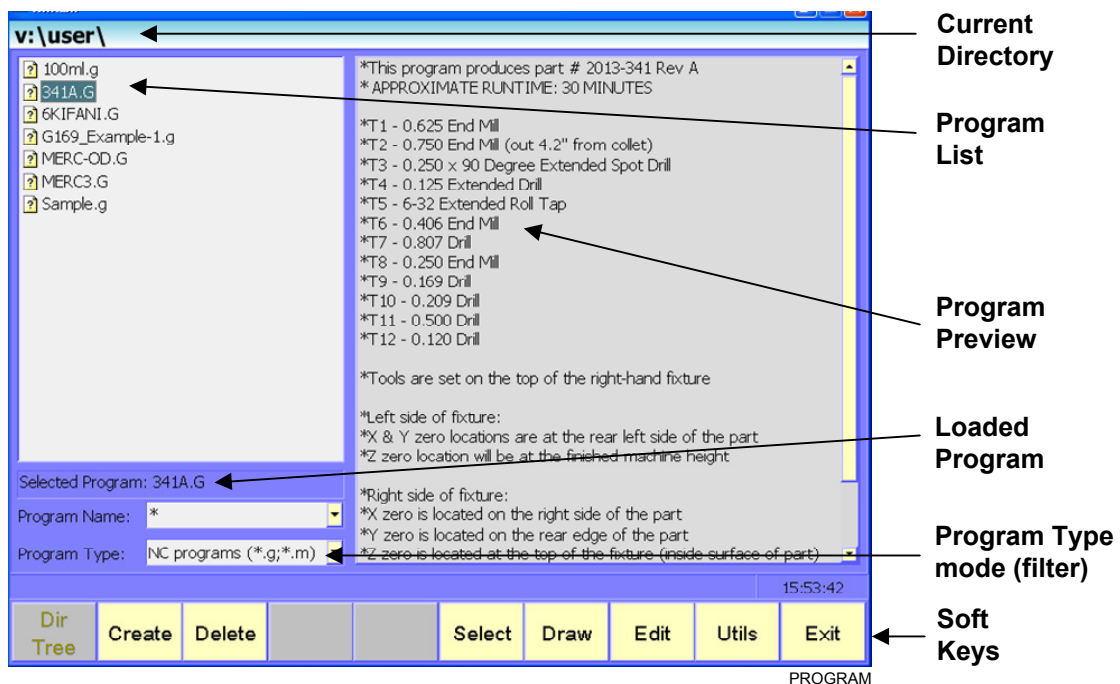

Figure 10-1, Program Screen
The Program Manager's **USER** listing lists the programs stored in the CNC. Refer to **Figure 10-1**. All CNC programs have **.G** extensions after their names. Change the Program Type mode to view programs with other formats.
2. In the Manual screen, press **Program (F2)**. The Program screen activates (refer to Figure 10-1, Program Screen).